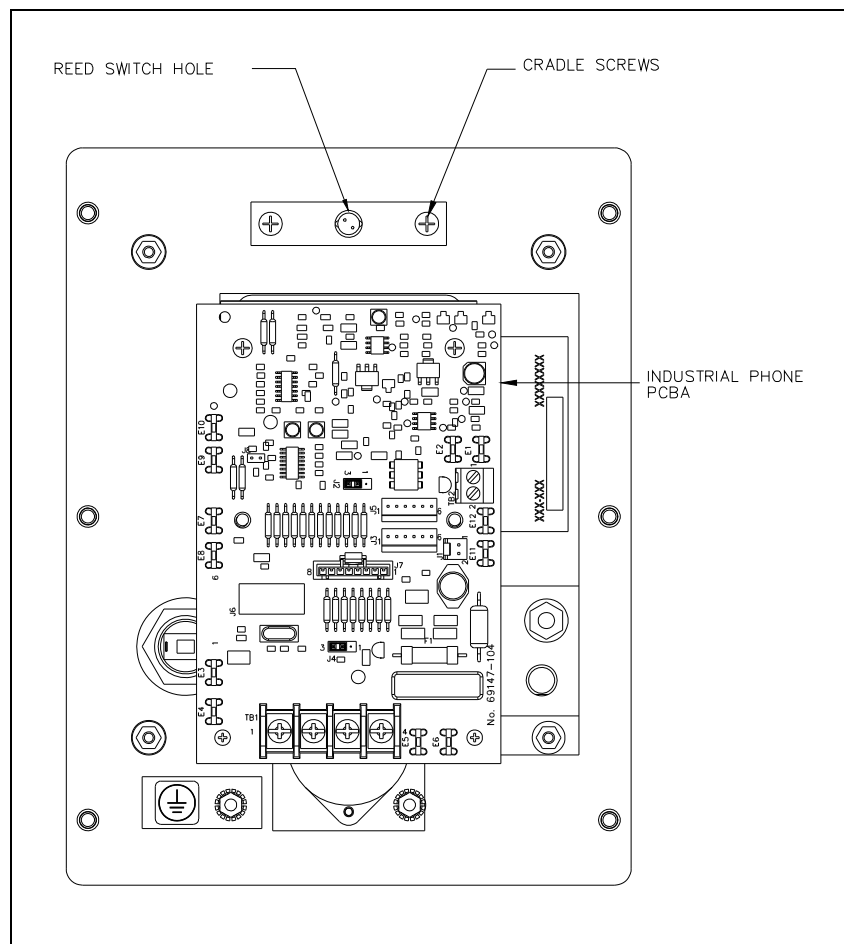

Figure 5. Models 27x-001BH Series—Front Panel Assembly—Interior View
7. Remove the two screws that secure the handset cradle to the front cover assembly. It may be necessary to loosen or remove the VoIP Telephone PCBA to access the screw heads on the Model 276-700 Series and 277-700 Series Telephones. Retain the screws for reassembly (See Figure 5 or Figure 6).
1. Secure the cradle to the front panel (using the screws retained from Step 7 of the removal instructions above. See Figure 5 or Figure 6).